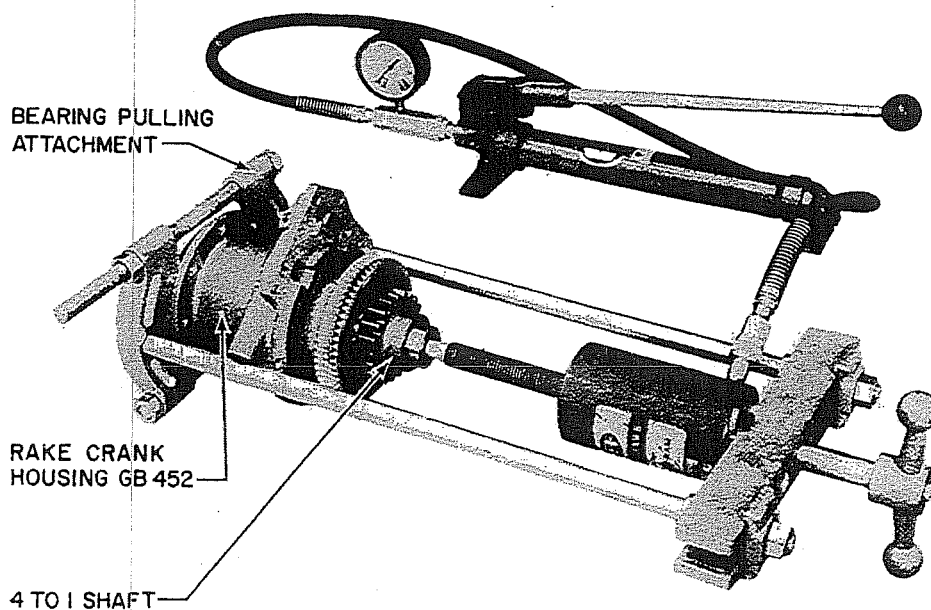

Figure 15. 4 to 1 Shaft, Installation of Rake Crank Housing GB452
- M. Secure the bearing pulling attachment behind the flange of Rake Crank Housing GB452 and press the shaft assembly into the housing until the shaft seats firmly against Bearing GB434A (figure 15).